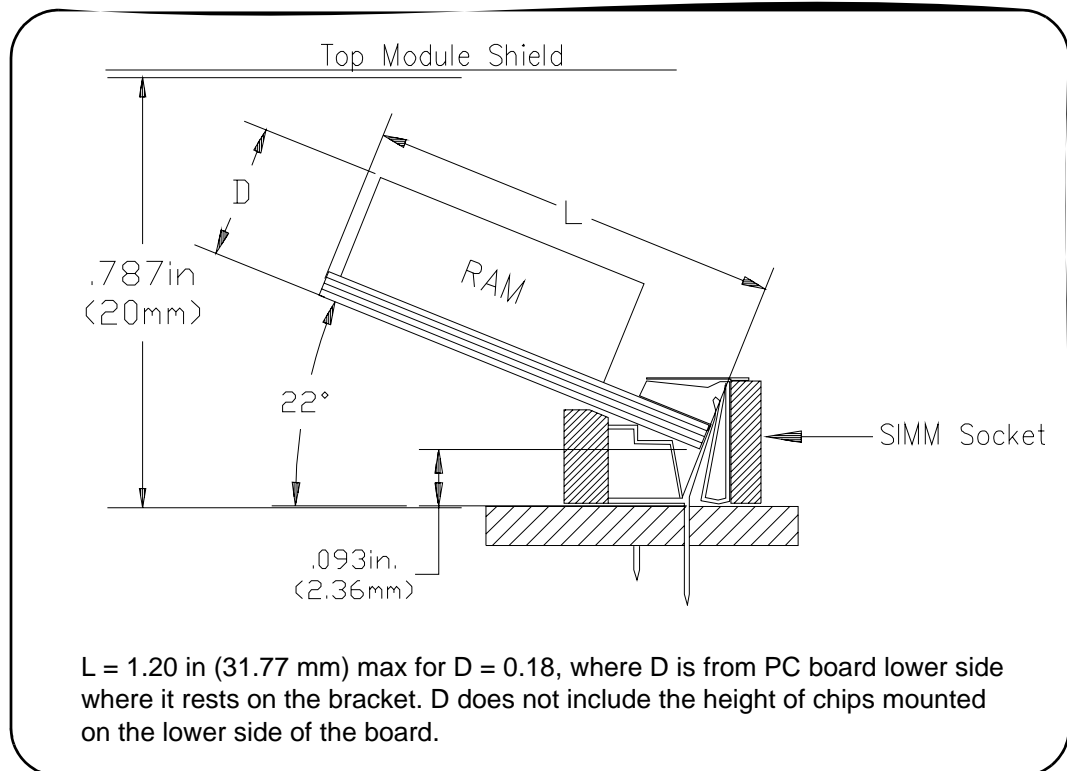

Figure 1-3. Adding RAM to the Module
The VT1563A/VT1564A has about 17.6 mm of space from the bottom of the SIMM RAM inserted in the socket to the top module shield (see Figure 1-3). You must verify that the SIMM RAM you purchase for replacement on the module has a depth (D) that will clear the top module shield. You can use the 4 Mbyte SIMM RAM you remove as a guide, as well as the dimensions in Figure 1-3, when purchasing your upgrade RAM .